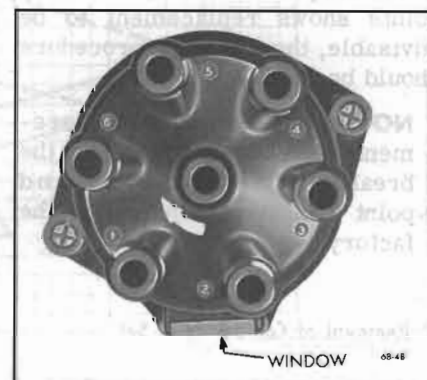

Figure 68-42—Installing Spark Plug Wires in Cap - V-6 Engine
5. Install distributor cap. Make sure that spark plug wires are correctly installed in distributor cap, through clips on rocker arm covers, and on spark plugs. See Figure 68-42 or 43.
No. 1 spark plug wire is installed in the first distributor cap tower after the adjusting window, moving in the direction of rotation. The other wires are then installed in a clockwise direction according to the firing order. See Figure 68-42 or 43.